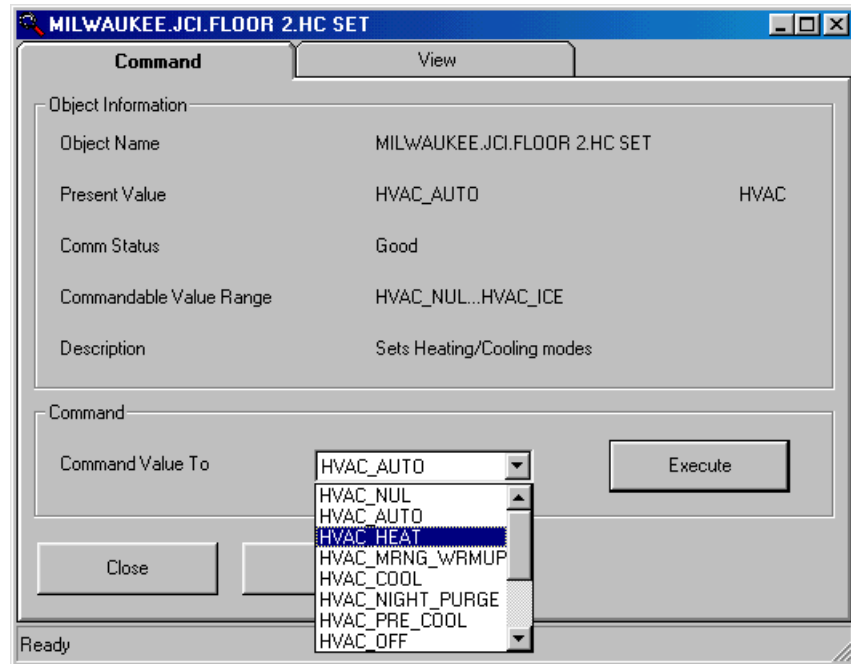

Figure D-5: Command Value To Drop-Down List
3. In the Command Value To field, click the drop-down arrow to select a value from the list of supported command values for tags that have enumerated, named values (Figure D-5), or type the numeric value for analog (floating point) or digital (integer) tags. The range of values is shown in the Commandable Value Range field. Schedule objects support the Enable and Disable commands.